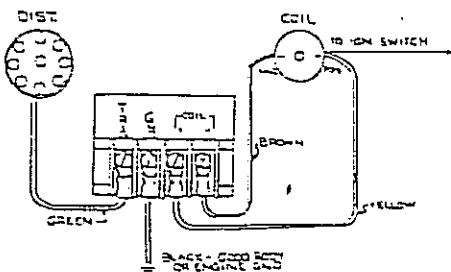

FIGURE 3
8. Connect brown wire (coil-) on HyFire box to the negative (-) terminal on the coil. Connect yellow wire (coil+) on the HyFire box to the positive (+) terminal on the coil. Try to route wires close to existing wires and away from hot engine components. (See figure 3.)
9. Connect black wire (GND) on HyFire box to a good body or engine ground point. This wire may also be connected directly to the negative (-) battery terminal. (See figure 3.)
10. Connect green wire (TRIG) on HyFire box to distributor connection or splice to wire on distributor. If the wire requires splicing, solder and tape connection to prevent shorting. Try to route wire close to existing wires and away from hot engine components. (See figure 3.)